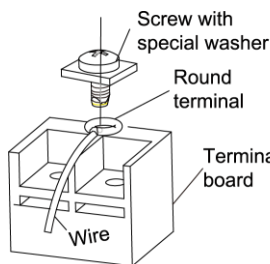

Fig. 4.36
- 4). Position the round terminal wire, and replace and tighten the terminal screw with a screwdriver (Fig. 4.36).